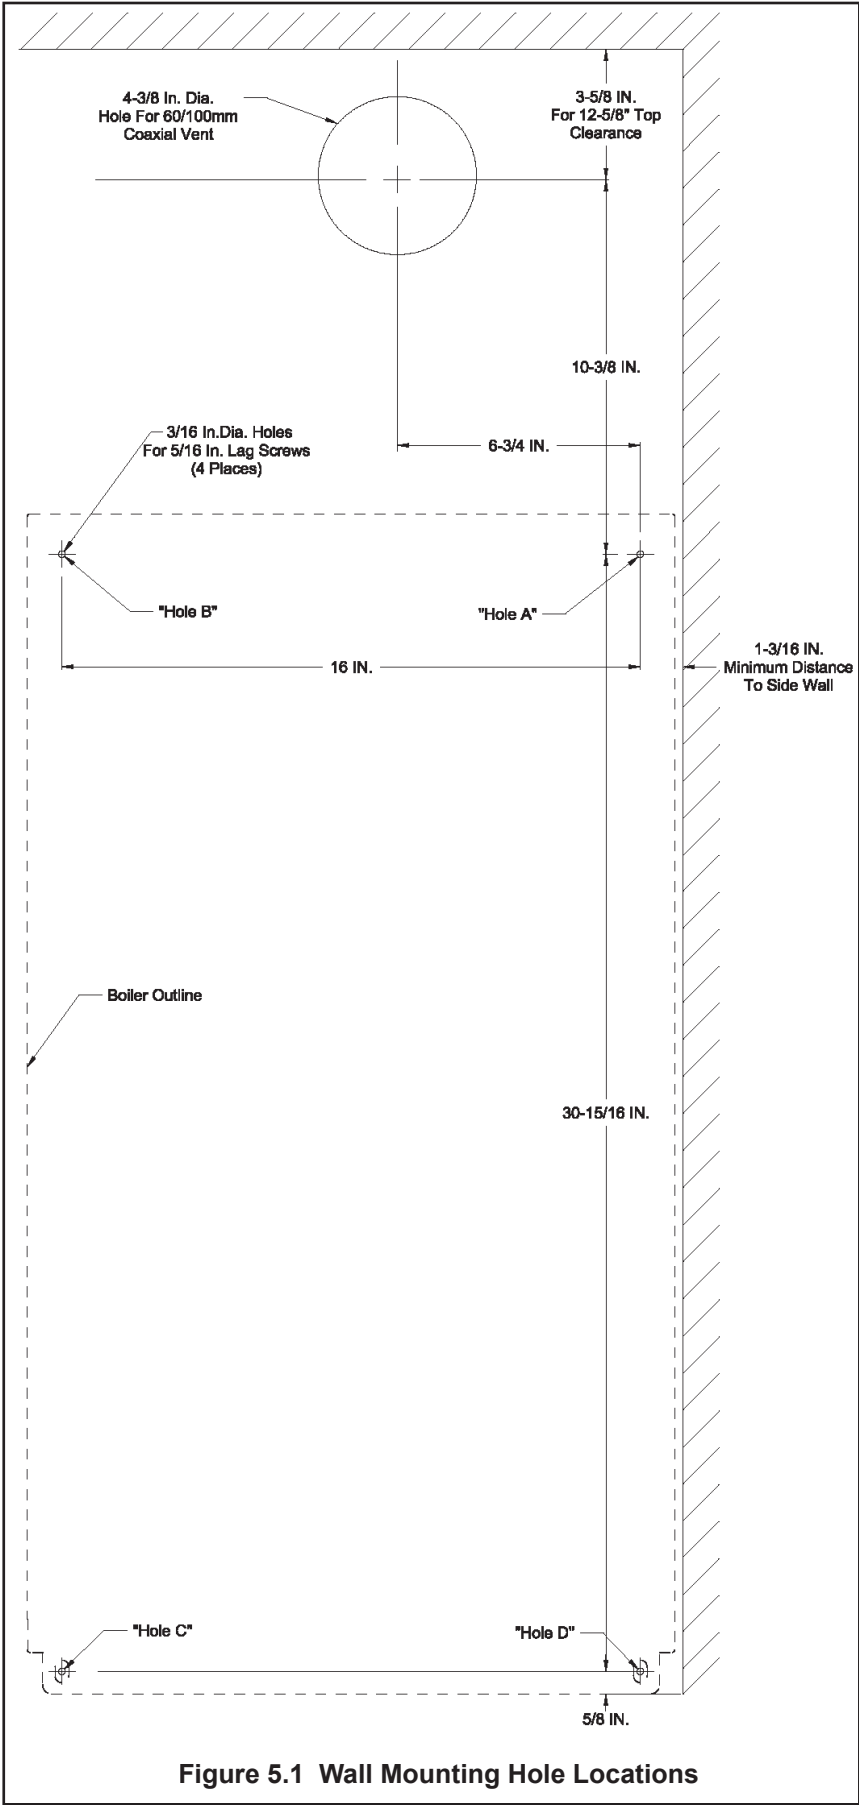

Figure 5.1 Wall Mounting Hole Locations
- 5) Once a suitable location has been selected for the boiler, and any needed modifications have been made to the wall, use Figure 5.1 to locate holes "A" and "B". Make sure that the horizontal centerline of these holes is level. Holes "C" and "D" may also be drilled at this time or after the boiler is hung on the wall. If the 5/16 x 2" lag screws are used, drill 3/16" pilot holes.